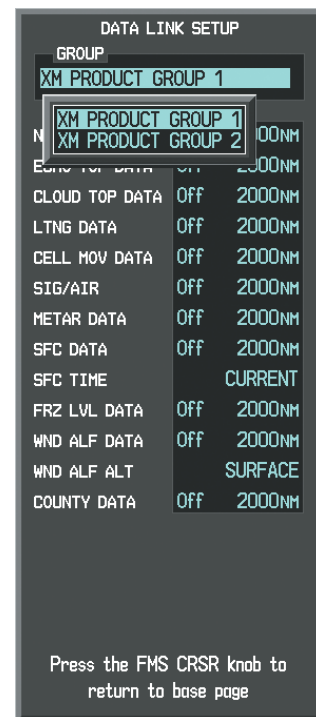

Figure 6-5 Weather Data Link Page Setup Menu
- 4) Turn the small **FMS** Knob to select 'XM Product Group 1' or 'XM Product Group 2', and press the **ENT** Key (Figure 6-5).